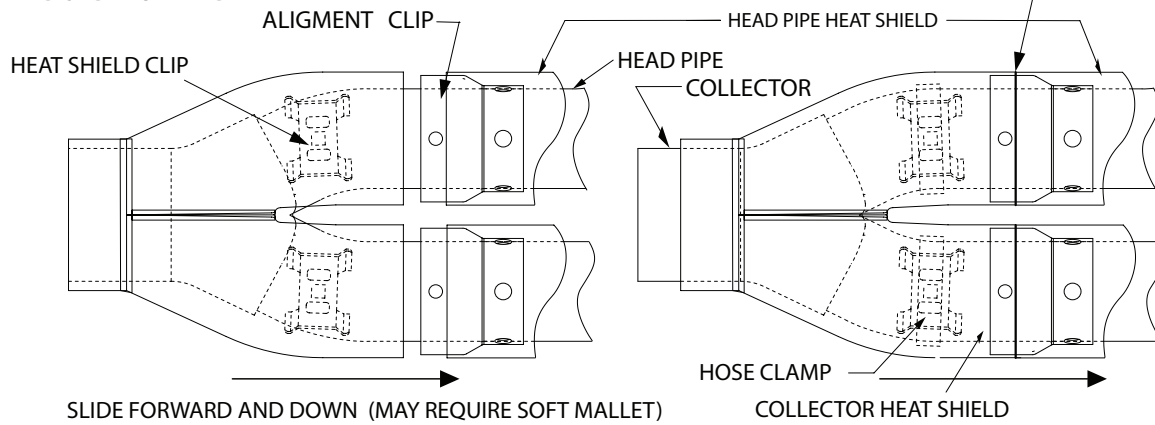

FIGURE 4
11. Install Torca band clamp with bolts facing down (supplied) onto end of collector (**Figure 4**).
12. Install muffler assembly onto collector of header assembly (**Figure 4**). Attach muffler assembly to OEM sliding hanger and secure with 5/16" OEM bolts removed earlier.